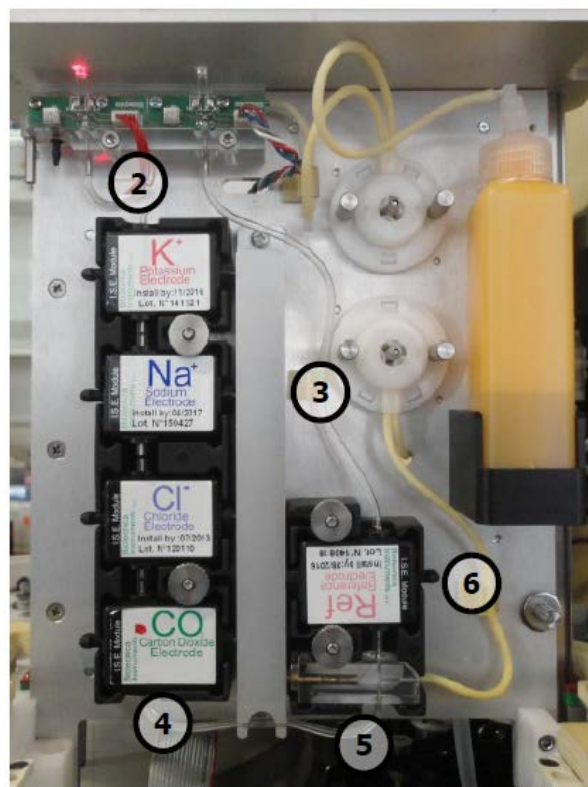

Figure 8-1
3. Disconnect the tubes **2, 3, 4, 5** and **6** (**Figure 8-1** – BT1500) from the electrodes and follow instructions as at point 2.
5. It is recommended to immediately disconnect the first electrode (K) from the next one, especially when CO₂ is present.